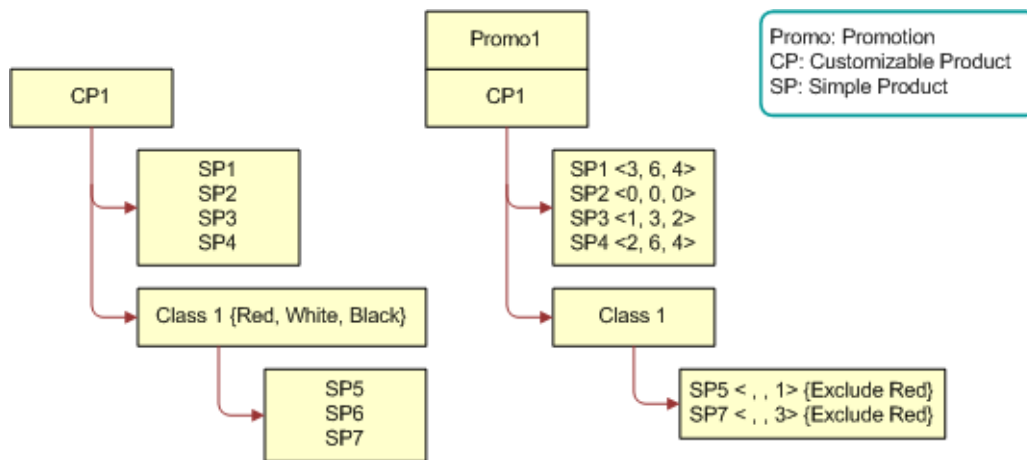

Figure 9. Product Structure for CP1 and Promo 1
- 1 A customizable product named CP1 is defined and a promotion named Promo1 is defined as shown in Figure 9.
Figure 9 shows a product named CP1 with the following structure: CP1 has four simple product relationships defined (SP1, SP2, SP3, SP4) and a Product Class named Class 1. A further three simple product relationships (SP5, SP6, SP7) are defined and associated with Class 1. Class 1 is associated with an attribute that has the values {Red, White, Black}.
Figure 9 shows a promotion named Promo1, where CP1 has the following structure: CP1 has four simple product relationships defined (SP1, SP2, SP3, SP4) and a Product Class named Class 1. A
- 1 Create the product structure for CP1 and Promo1 as shown Figure 9.